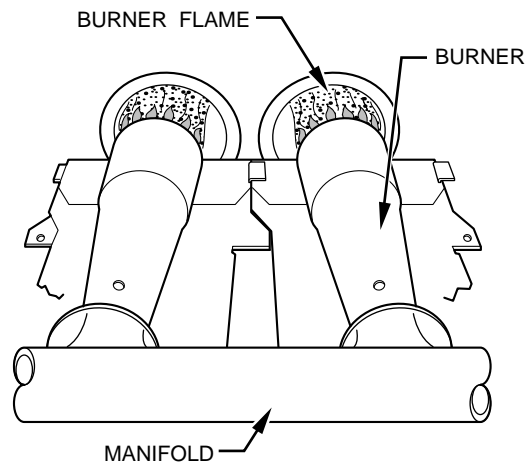

Fig. 23—Burner Flame
- Burner flame should be clear blue, almost transparent. (See Fig. 23.)